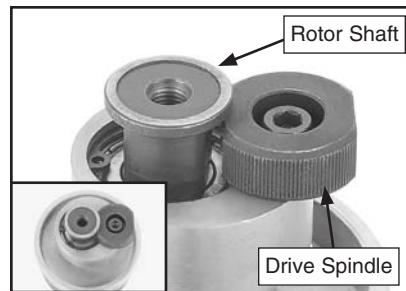

Figure 11. Sander in rotary mode (pad removed for clarity).
2. To operate the sander in rotary mode, position the drive spindle so the rotor shaft moves freely, as shown in **Figure 11**.